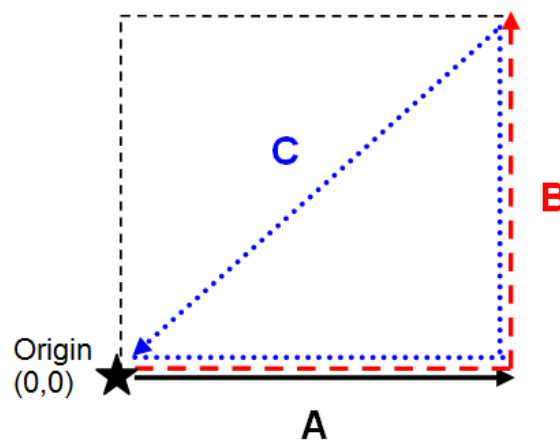

Figure 7-8: Forming a right-angle triangle
Step 2 – Layout the Grid – for maximum accuracy, it's very important to establish a right-angle triangle (Figure 7-8). The easiest way is to use a single tape measure and refer to the diagram below. Start at the origin, walk out the desired distance for x-axis (A) and mark that point. Then then turn 90 degrees and walk out the desired distance for the y-axis (B) and mark that point. Determine the hypotenuse side (C) from the screen (Figure 7-8), then close in the triangle (C - hypotenuse side) back to the origin, making sure you meet the origin at the distance for C. If not, move that last point in tandem with the origin, such that both sides of the tape measure are taut.